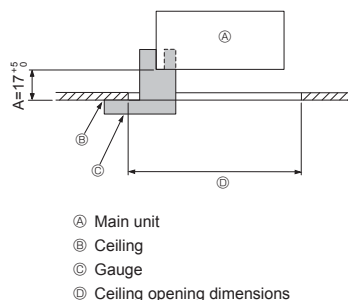

Fig. 2-6
- Make sure that A is performed within 17-22 mm. Damage could result by failing to adhere to this range. (Fig. 2-6)